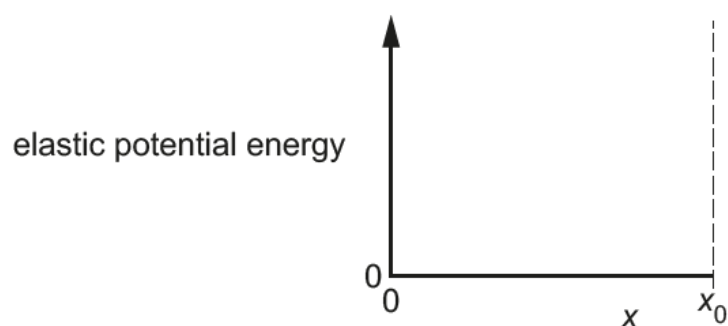

Fig. 4.3
- (iii) The maximum compression of the spring is x_0 . On Fig. 4.3, sketch a graph to show the variation of the elastic potential energy of the spring with its compression x from $x = 0$ to $x = x_0$. Numerical values are not required.